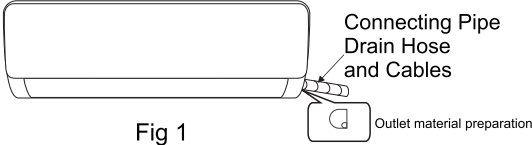
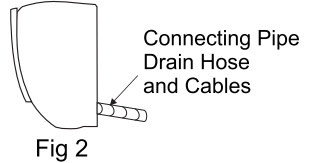

Fig 1
Fig 2
- Depending on the position of the unit, the piping may be routed sideway from the left or the right ( Fig 1 ), or vertically from the back( Fig 2 )(depending on the pipe length of the indoor unit). In the case of sideway routing, cut off the outlet cutting stock of the opposite side.